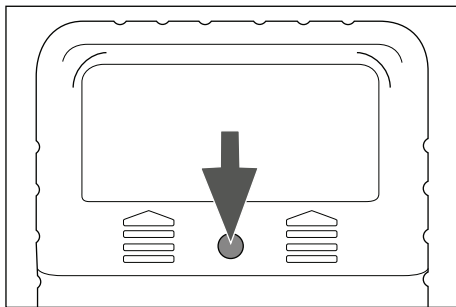

Fig. 1
- 1) Loosen the upper screw on the back of the device with a screwdriver (see Fig. 1). Remove the battery cover by sliding it upwards.